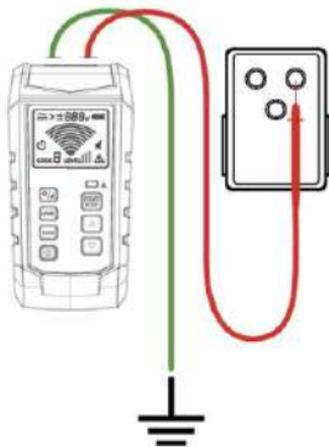

Figure 7.1.1a – Correct Connection of Independent Grounding
2. Connect the outlet converter to the outlet and connect the red test lead to the energized live wire (at the load side of the system). Signal is generated only between the power supply and the load side connected to the transmitter, as shown in **Figure 7.1.1a**.